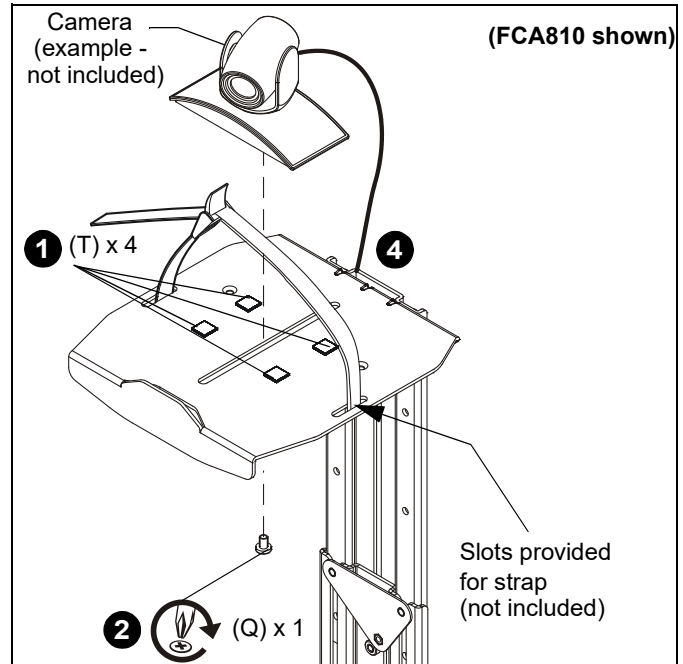
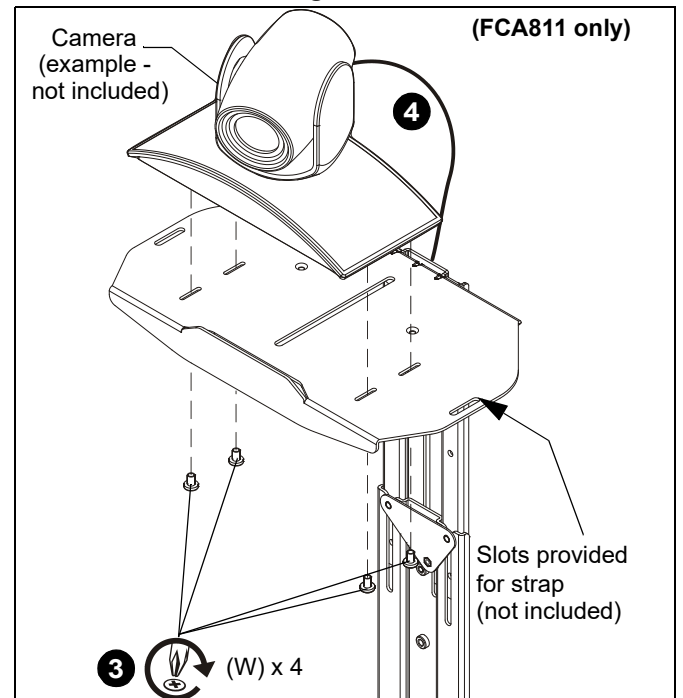

Figure 27
Figure 28
2. (Single Screw option) Install 1/4-20 x 3/8" Phillips pan machine screw (Q) through mounting slot on shelf and into hole on bottom of camera. (See Figure 27)
3. (Multiple screw option - FCA811 only) Install four #4-48 x 1/4" Phillips pan machine screws (W) through outside mounting slots and into holes on bottom of camera. (See Figure 28)
4. Route cable from camera towards back of shelf and down behind the FCA810/811. (See Figure 27) and (See Figure 28)
NOTE: OPTIONAL: Slots are provided in shelf for strap (not included) to hold camera in place. (See Figure 27)